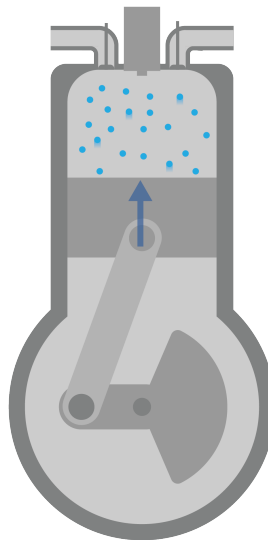

Figure 1.3: The compression stroke compresses the gas and oxygen.
- Now, the crank shaft starts to push the piston up, compressing the gas and oxygen. See Figure 1.3.